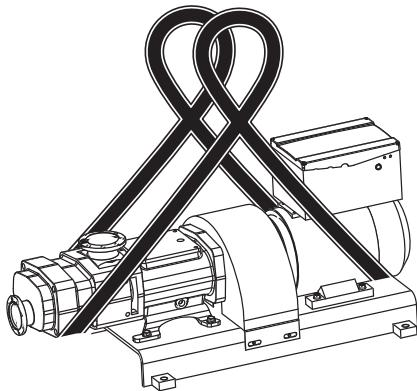

Fig. 7 Transport with round sling
- Place the round sling around the gear motor, see *Fig. 7 "Transport with round sling", Page 10*.
2. Put the other end of the round sling around the pump housing, see *Fig. 7 "Transport with round sling", Page 10*.